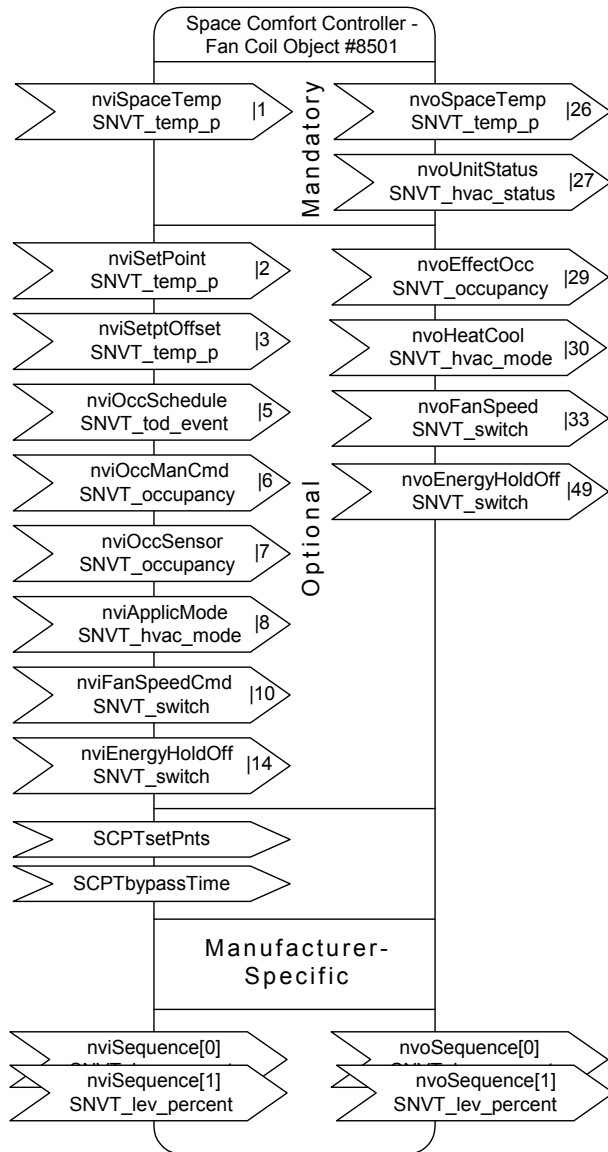

Fig. 11. FCU Controller Object
- one space comfort controller object (see Fig. 11)